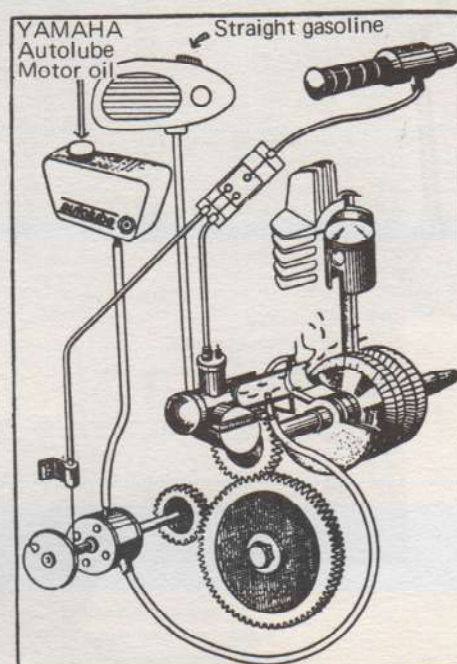

Fig. 2-1
3. Yamaha Autolube eliminates lubrication problems peculiar to 2-stroke engines with the conventional "pre-mix" system, and improves many inherent advantages of 2-stroke design. (Fig. 2-1 & 2)